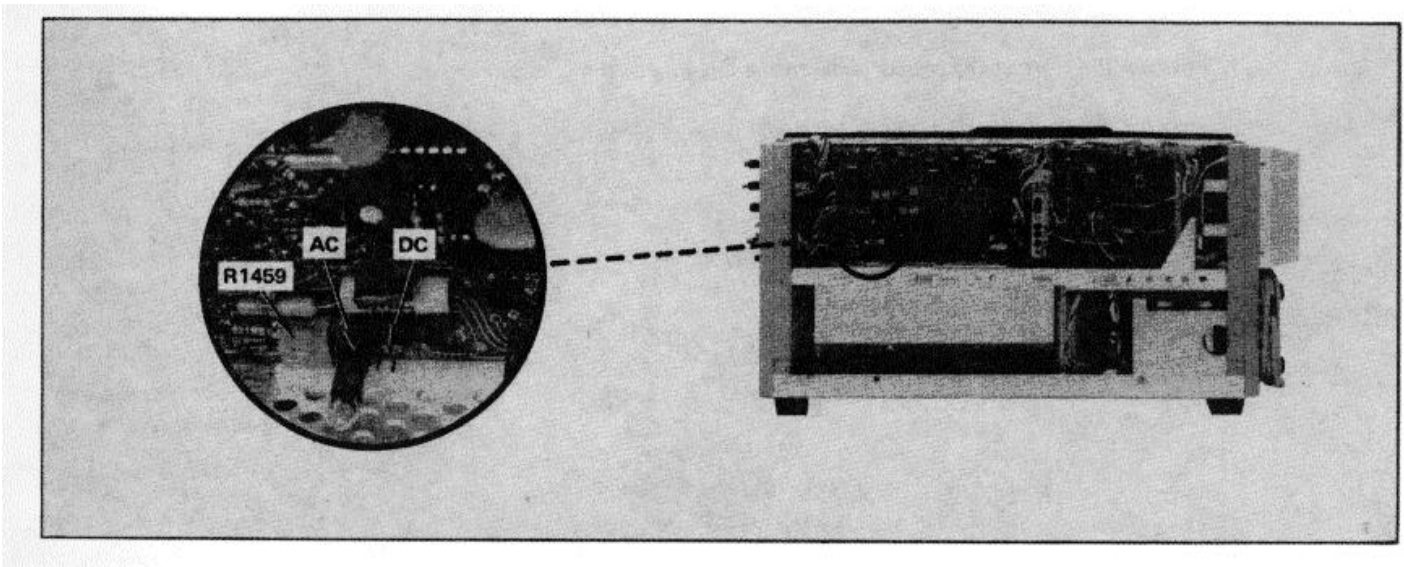

Figure 5-2. Location of Calibrator AC/DC jumper.
- a. Change jumper P1440 to the DC position (see Figure 5-2)
- a. Change jumper P1440 to the AC position (see Figure 5-2).